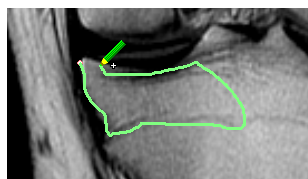

Figure 260 – Drawing a contour with the Freehand tool
4. Press and hold down the left mouse button to draw the contour (see Figure 260).